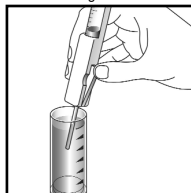

Figure 4
4. Hold the Titrettor with the sample pipe in the sample. Press the control bar firmly, but briefly, to pull in a small amount of sample. The contents will turn **GREEN** (fig. 4).
5. Press the control bar again to draw another small amount of sample into the ampoule (fig. 4).